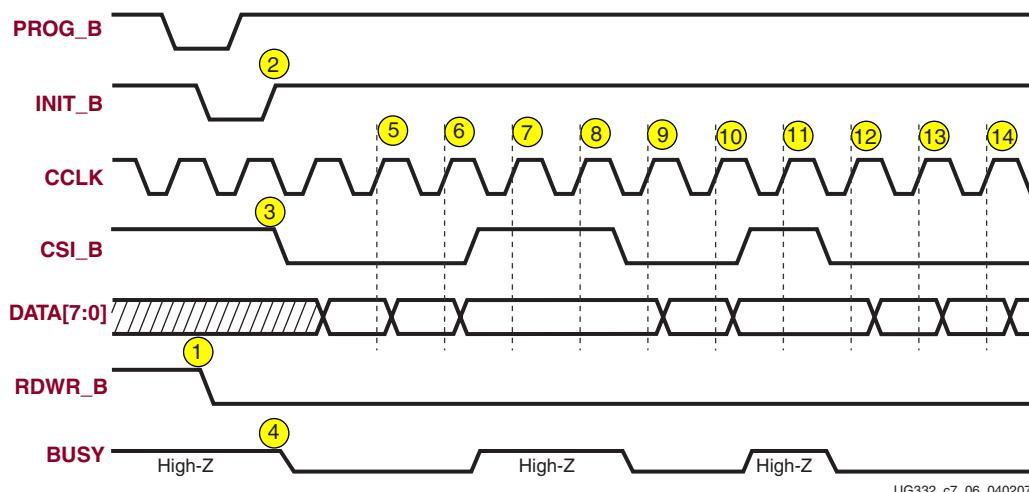

Figure 7-6: **SelectMAP Non-Continuous Data Loading with Controlled CSI_B**
1. Deassert the **CSI_B** signal with a free-running **CCLK**, shown in Figure 7-6 and described in “Deasserting CSI_B,” page 187.
The following numbered items correspond to the markers provided in Figure 7-6.